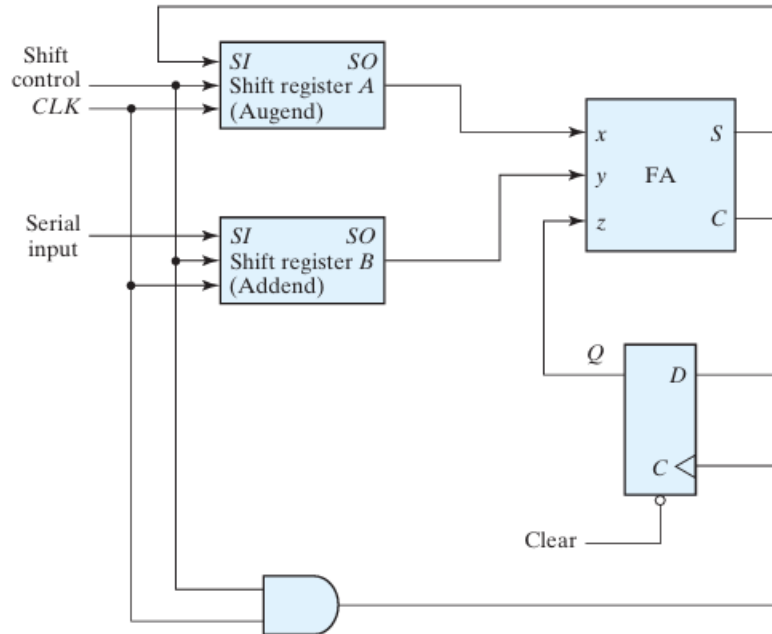

FIGURE 6.5
Two shift registers hold the two binary numbers that need to be added serially. As illustrated in Fig. 6.5, the circuit starts with the least significant pair of bits and adds one pair at a time using a single full-adder (FA) circuit. The complete adder's output is transferred to a D flip-flop, whose carry input is subsequently utilized for the subsequent pair of significant bits. It is possible to transfer the sum bit from the full adder's S output into a third shift register. One register can be used to store both the augend and the sum bits by shifting the sum into A while shifting the bits of A out. The serial input of register B can be used to transfer a new binary number while the addend bits are shifted out during the addition.